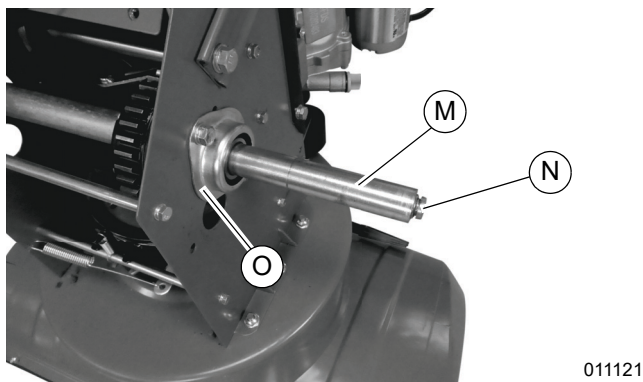

Figure 4-25. Outer and Inner Shafts
11. See Figure 4-25. Hold the larger diameter outer shaft (M) of the right-side axle shaft while hitting the smaller diameter inner shaft (N) with a dead blow hammer. This will push the smaller shaft in, separating it from the larger outer shaft.